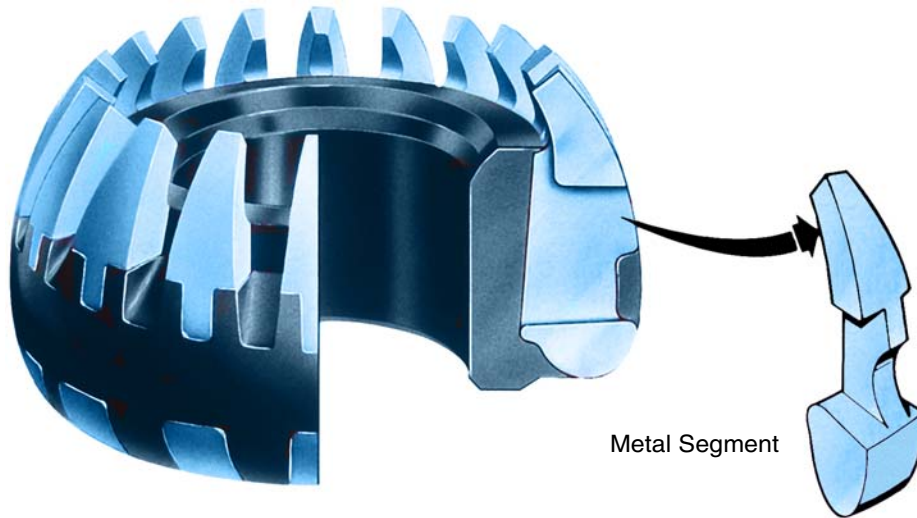

Figure 4-5. Sealing Element
10. Inspect the sealing element for the following flaws (see Figure 4-5):